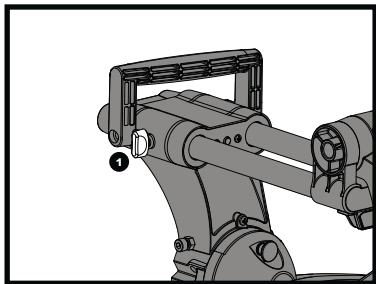

Fig 30
- 1) For chop cutting operations on small workpieces, slide the cutting head assembly completely toward the rear of the unit and tighten the carriage lock knob (1).
- 2) To cut wide boards up to 310 mm, the carriage lock knob must be loosened to allow the cutting head to slide freely. (See fig. 30)